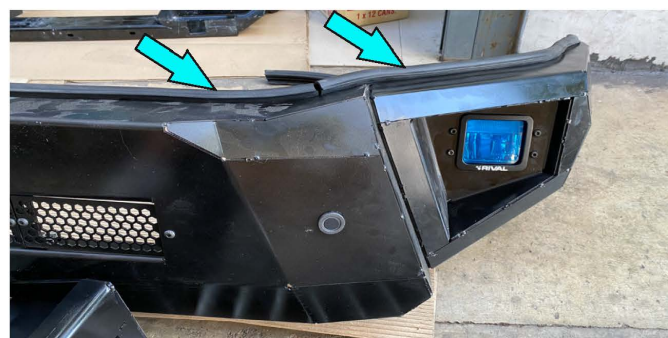

Fig.46
46. Install weatherstrip (item 39) on bumper body, as shown in fig.46.